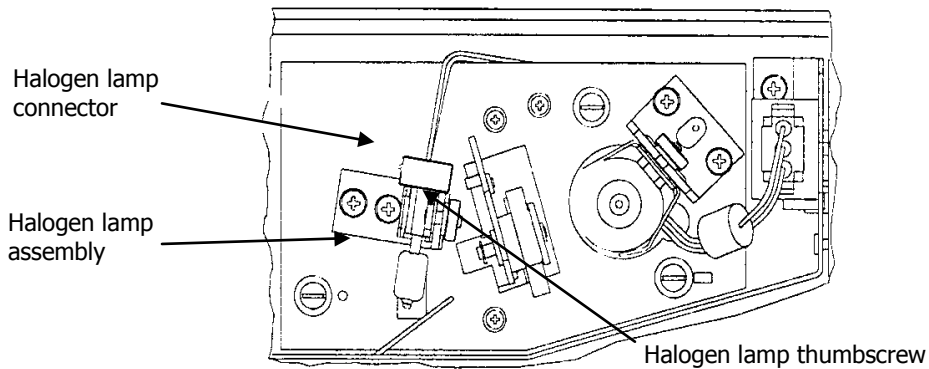

Figure 34 Removing the halogen lamp connector
- Carefully pull the halogen lamp connector from the rear of the halogen lamp, as shown in Figure 34.